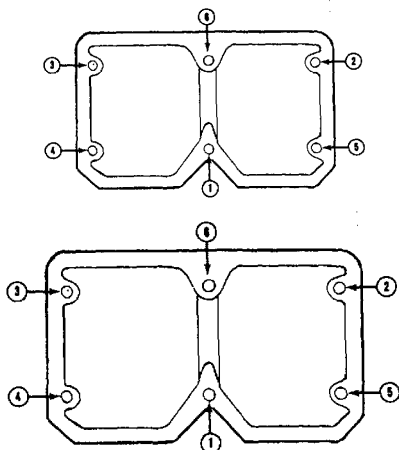

Fig. 14-9, (N11463). Rocker lever housing torquing sequence
3. Secure housing, brackets and support with capscrews. Torque in sequence, Fig. 14-9, to 55 to 65 ft-lbs [7.6 to 8.9 kg m].